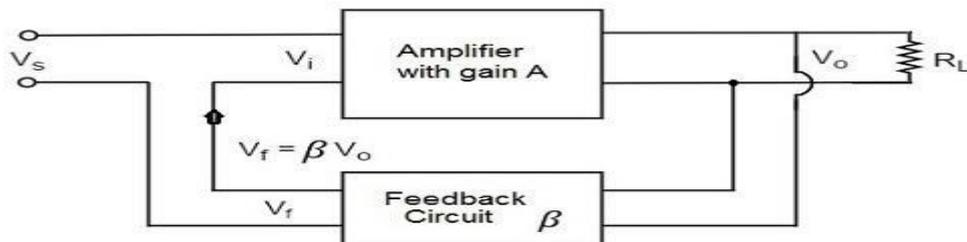

Fig.2. voltage series feedback circuit
- The following figure.2 shows the block diagram of voltage series feedback, by which it is evident that the feedback circuit is placed in shunt with the output but in series with the input.